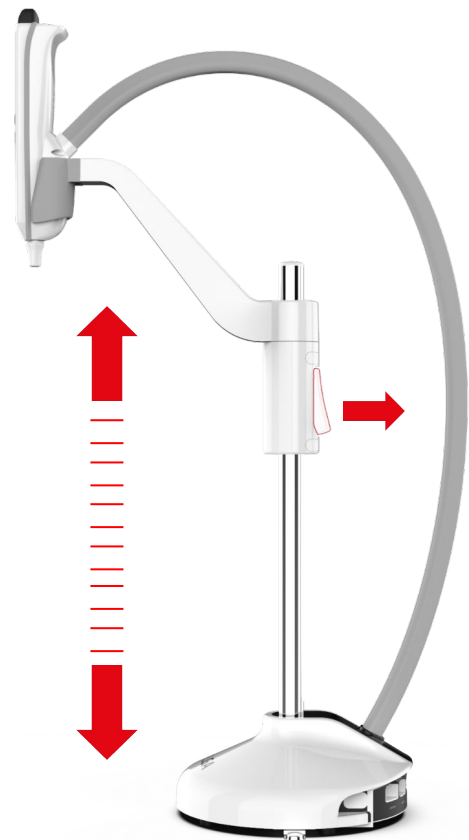

Fig.4
d. When you have found the perfect height, release the height adjustment button to lock into position. (Fig.4)